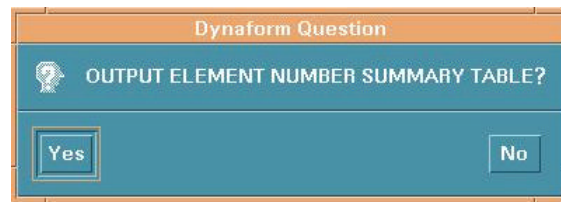

Figure 6.3.14 Element Number Table Question
- Answer the DYNAFORM Question window, see Figure 6.3.14.